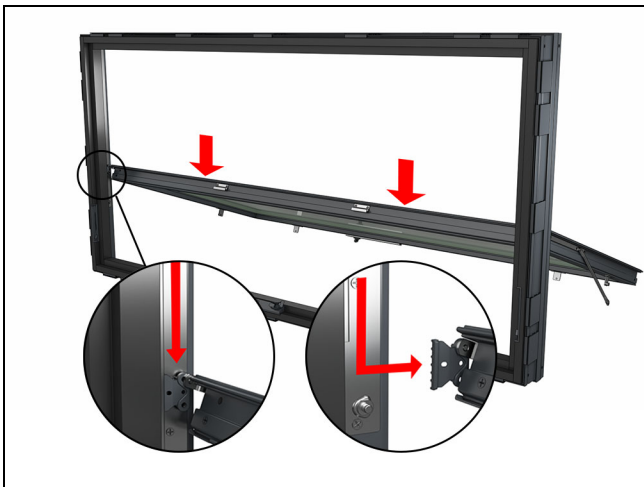

Figure 102
4. Gently lower the sash until the shoe on both sides of the sash are below the groove in the hinge track. Remove the sash from the frame by pulling it outward. See Figure 102.